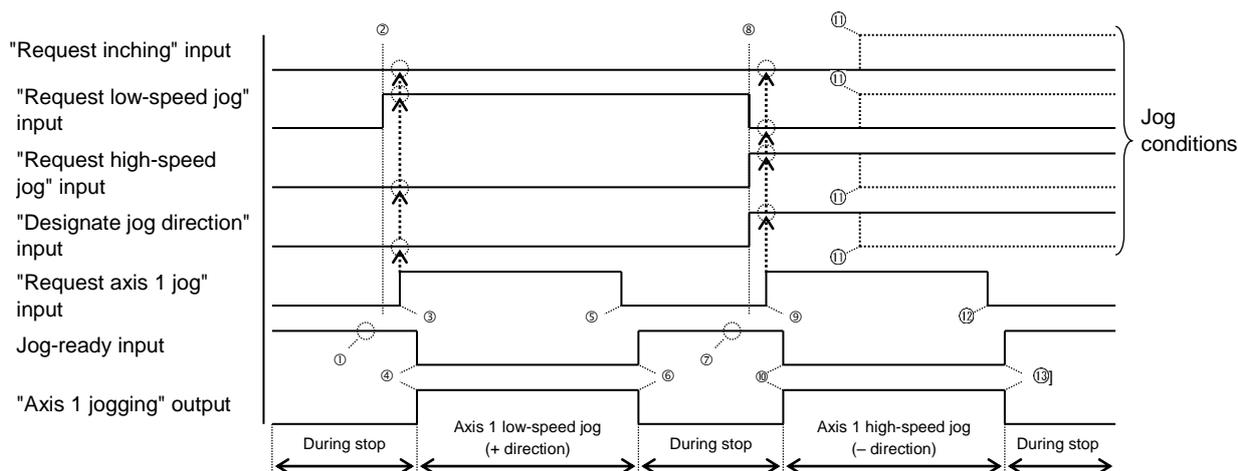

Fig. 13.2.4-1 Example of axis 1 travel
- When the jog conditions (inching request, low-speed jog request, high-speed jog request) and jog direction are specified, and the jog request is ON, the corresponding axis performs the jog operation. (Refer to Fig. 13.2.4-1.)